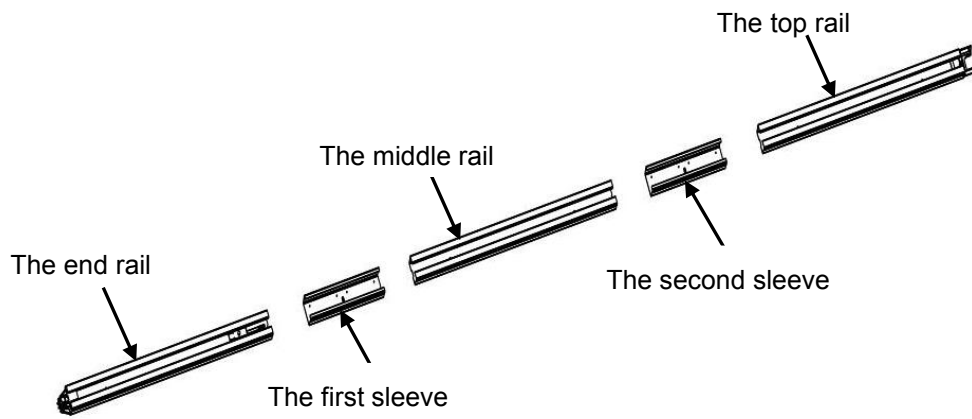

Fig. 8
2. As Fig.8,slide the 2nd sleeve to the other end of middle rail, slide the top rail into the 2nd sleeve;